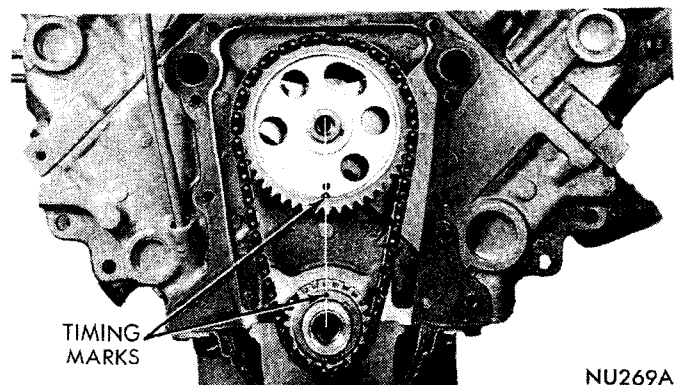

Fig. 23—Alignment of Timing Marks
(6) Place both camshaft sprocket and crankshaft sprocket on the bench with timing marks on exact imaginary center line through both camshaft and crankshaft bores.
(7) Place timing chain around both sprockets.
(8) Turn crankshaft and camshaft to line up with keyway location in crankshaft sprocket and in camshaft sprocket.
(9) Lift sprockets and chain (keep sprockets tight against the chain in position as described).
(10) Slide both sprockets evenly over their respective shafts and use a straight edge to check alignment of timing marks (Fig. 23).
(11) Install the fuel pump eccentric, cup washer, and camshaft bolt. Tighten bolt to 35 foot-pounds.
(12) Check camshaft for .002 to .006 inch end play with a new thrust plate and up to .010 inch end play with a used thrust plate. If not within these limits install a new thrust plate.
(8) Lift sprockets and chain (keep sprockets tight against the chain in position as described).
(9) Slide both sprockets evenly over their respective shafts and use a straight edge to check alignment of timing marks (Fig. 23).
(10) Install the fuel pump eccentric, cup washer, and camshaft bolt. Tighten bolt to 35 foot-pounds.
(11) Measure camshaft end play. Refer to Specifications for proper clearance. If not within limits install a new thrust plate.